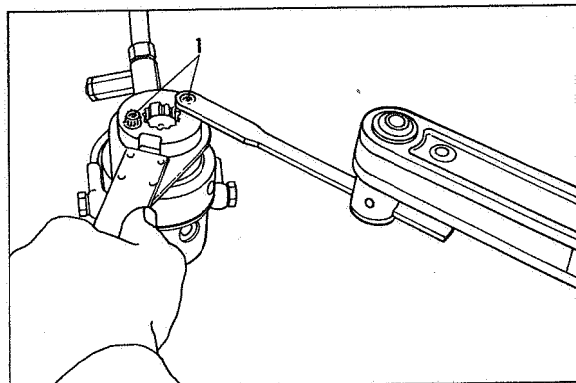

Fig 21 Tightening drive plate screws
Note: Drive plate screws (1) Fig 21 are tightened using a special technique with Spanner Tool Part No 7144-511A and an adaptor fitted in a torque wrench as illustrated. In use, the torque wrench handle and spanner must form a straight line